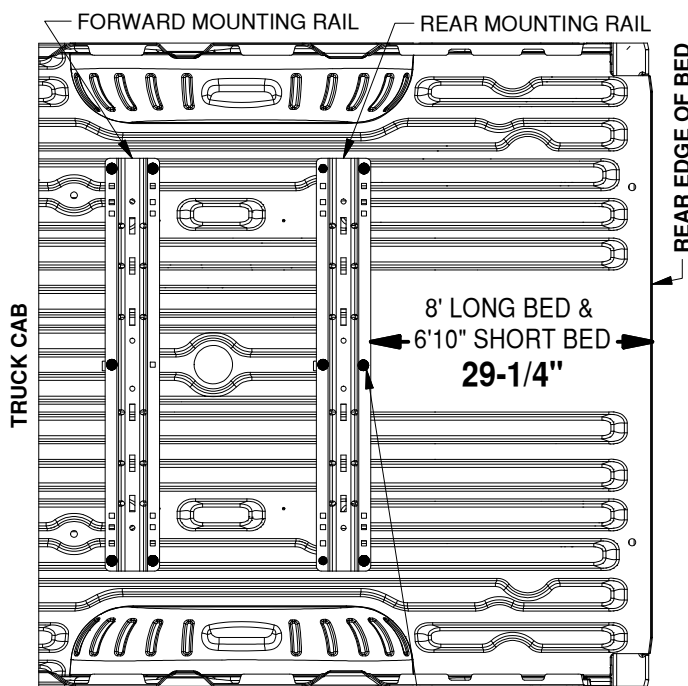

Figure B1: Detail view over bed, showing drill locations for the forward and rear bed rails. DRILL LOCATIONS HIGHLIGHTED BY BLACK DOTS
- Layout the rear mounting rail.** Place a mounting rail onto the bed of the truck. Hook a tape measure over the rear edge of the bed (not on any part of the tailgate), measure the location for the mounting rail as shown in Figure B1. Next, center the mounting rail in the bed by measuring the distance on either side from the edge of the rail to the sides of wheel wells. The rail will be centered when both measurements on either side of the rail are the same.
- Mark hole locations.** While carefully ensuring the mounting rail does not move, use a center punch tool to mark the 6 drill locations on the rear rail. See Figure B1 for hole marking locations for this installation (forward rails will install on a later step). Once all 6 rear rail locations are clearly marked, move the bed rail out of the way and drill each location with an 1/8" drill bit.
2. **Drill forward mounting holes.** Using the same methods as used for the rear mounting rail mark, drill, check, and enlarge the holes for the forward mounting rail. Refer to "DRILL REAR MOUNTING HOLES" section, steps 2 through 4, on a previous page. Notice that the hole locations are slightly different than the rear rail, see Figure B1 (on the second page).